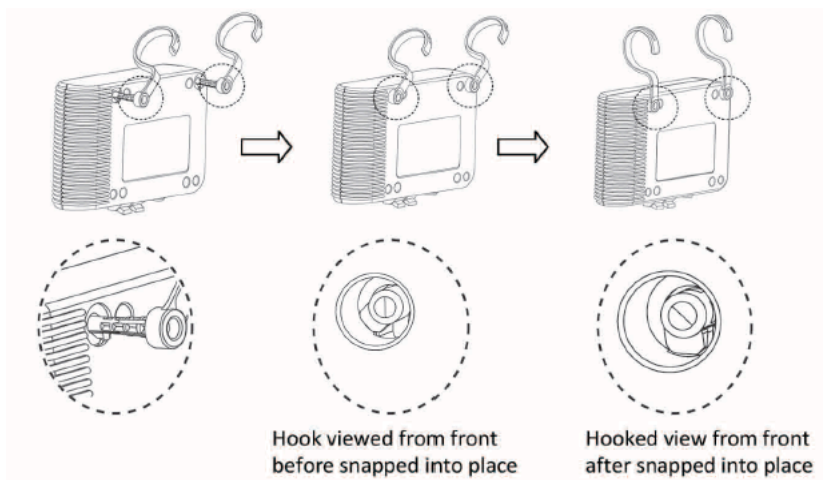

Fig.3 - Installing the Easy -Install Hooks to the Control Module
- Follow *Fig. 3* below to install the Easy-Install Hooks.